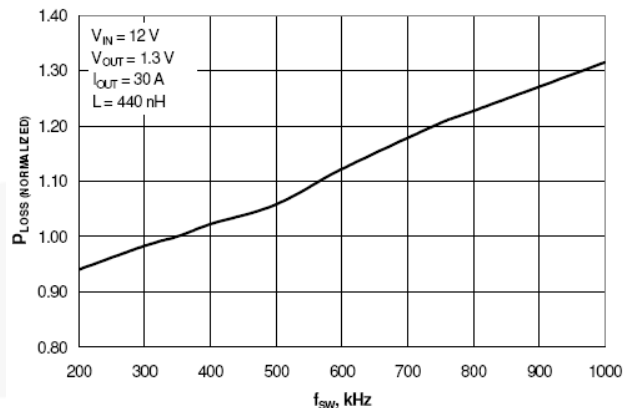

Figure 5. Normalized Module Ploss vs. Fsw
- Find normalized value of module power loss with Figure 5 when Fsw is 600 kHz → 1.12
- Ploss at 10 Vin, 5.5 Vcin, 2 Vout and 600 kHz. Note Figure 5: